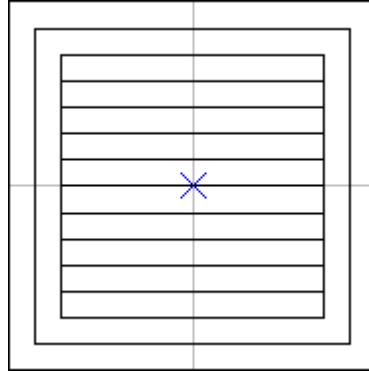

Fig. 3.2.12
**Loops:** Decide the amount of loop created inside the object according to the pitch. The hatch line will be filled in the loop. Fig.3.2.12 shows the hatch representation when this value is 2.